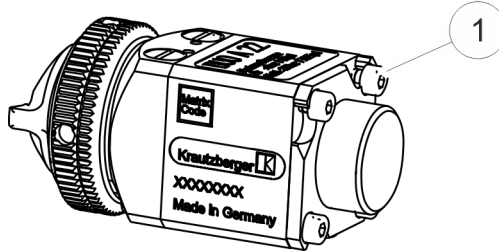

Fig. 19: Loosening the cylinder screws
3. ➞ Slightly loosen the four cylinder screws ( Fig. 19/1) with a spanner (SW 10) by turning them two times each.